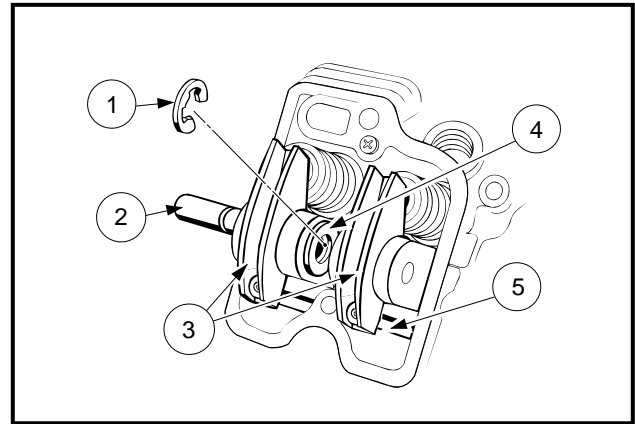

Figure 13-11 Remove Rocker Arms and Push Rods
NOTE: Because FE350 engines are equipped with hydraulic lifters, which automatically eliminate all clearance in the valve train, the rocker arms (3) and the push rods (5) do not need to be put back in their original positions (**Figure 13-11, Page 13-10**).
2. Remove the E-ring (1) and pull the rocker shaft (2) out of the cylinder head (**Figure 13-11, Page 13-10**).
3. Lift out the rocker arms (3), washer (4), and push rods (5).